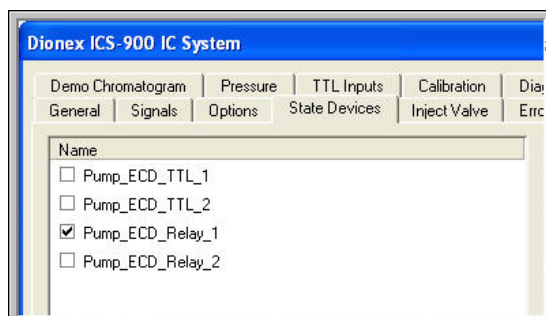

Figure 23. Dionex ICS-900 Properties: State Devices
- c. If an AS40 is installed, verify that Pump\_ECD\_Relay\_1 is selected (see Figure 23).